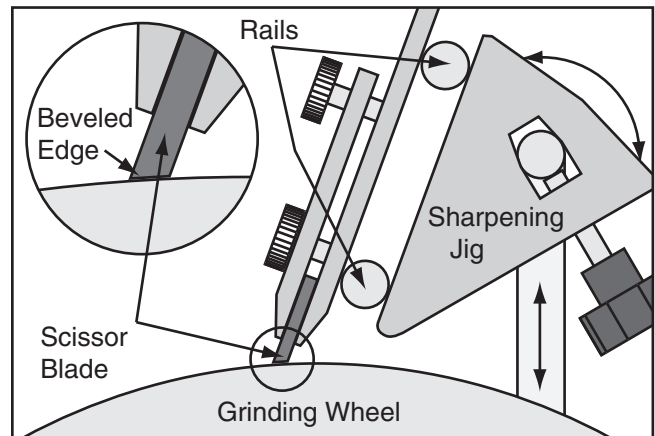

Figure 12. Scissors clamp placement.
7. Place the scissors clamp on the rails of the sharpening jig. Adjust the height of the universal support or the angle of the sharpening jig as needed so that the clamp sits flat on both rails as shown in **Figure 12**.
8. Fine tune the position of the universal jig and the angle of the scissors jig until the beveled edge of the blade sits flat against the grinding wheel, as shown in **Figure 12**.